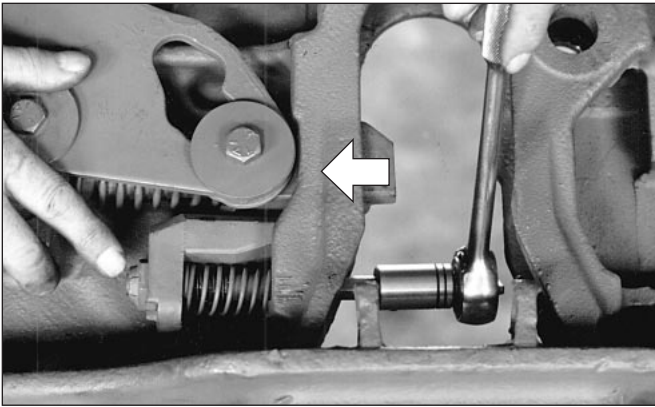

Figure 8
13. On some models, there could be interference between the washers (*ITEM 41*) and the fifth wheel casting when the cam is in the locked position. When the fifth wheel is locked, the washers must be free to spin. If the washers contact the casting, grind the casting at the point of interference shown by the arrow in *Figure 8*, until the washers are free to spin.
4. Next, slide wedge (*ITEM 12*) along plunger, compress spring and install the 5/8" locknut (*ITEM 14*), tighten the cap screw with a 1/2" Allen wrench until nut is flush with end of bolt (*see Figure 8*).